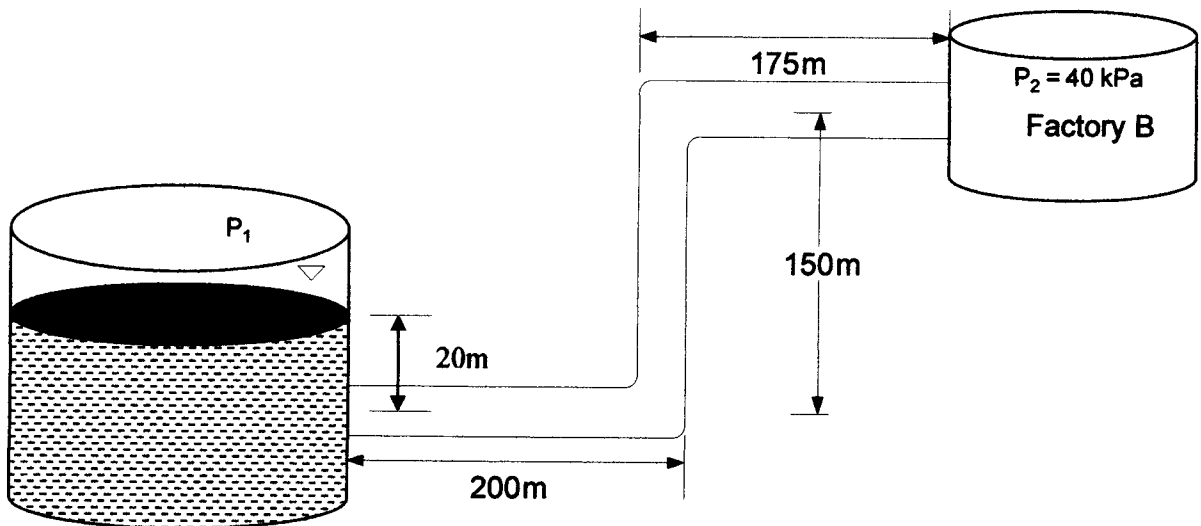

Figure Q4 (c)/ Rajah S4 (c)
- (c) Figure Q4 (c) shows water flows from closed tank Y through pipe with 200 mm diameter. Given that flow rate of $0.25 \text{ m}^3/\text{s}$, kinematics viscosity of water, ν is $0.113 \times 10^{-5} \text{ m}^2/\text{s}$, pipe friction factor, f is 0.016 and coefficient of minor losses for entrance, bend and exit are $k_e = 0.5$, $K_b = 0.9$ and $k_o = 1$ respectively. Determine;